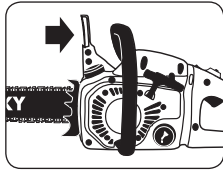

Fig. 7A
1. The chain brake is disengaged (chain can move) when brake lever is pulled back and locked (Fig. 7A).